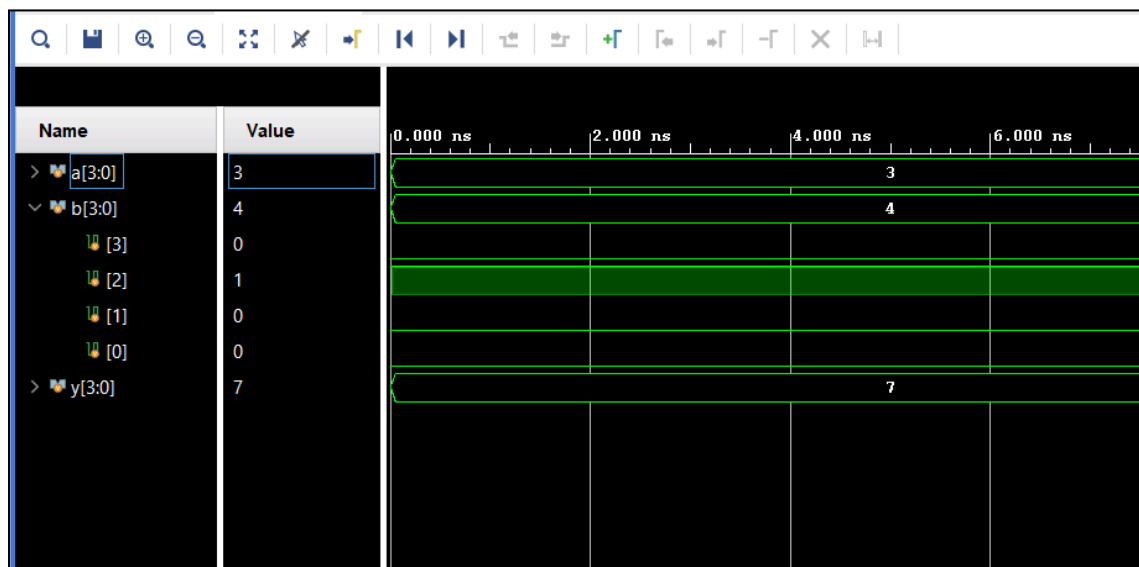

Figure 7. Wave view for vectors with the b waveform expanded
- b. Signals that are vectors will be bundled together in the Wave view. Rather than displaying a waveform for each bit of the vector, Vivado will simply display the value of that vector. You can view the individual waveforms by selecting the dropdown arrow next to the signal’s name, as shown in Figure 7.